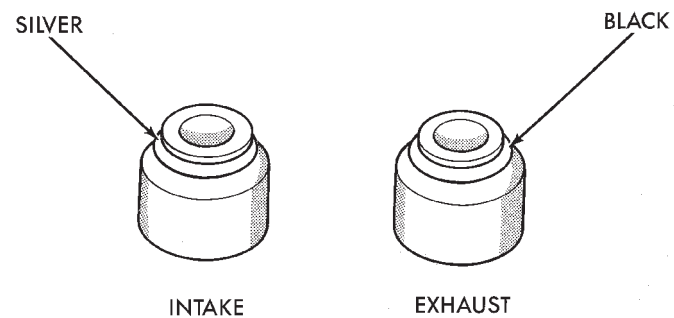
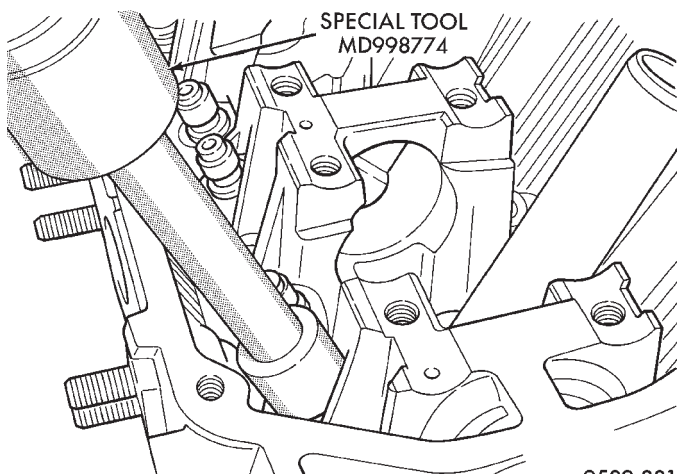

Fig. 46 Valve Stem Seals Identification
Fig. 47 Valve Stem Seals—Installed
- (1) Coat valve stems with clean engine oil and insert in cylinder head.
- (2) Install valve spring seat.
- (3) Install the silver valve seal onto the intake valve guide and the black seal onto the exhaust valve guide (Fig. 46). Using Special Tool MD-998774 install seal by tapping lightly until seal is in place (Fig. 47).